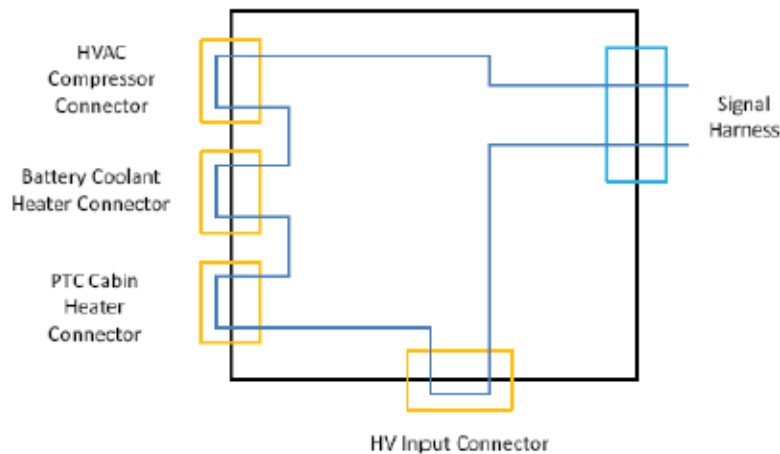

Figure 5
5. Listen to the alert tones and the sound of contactors opening to identify a loose connection during the previous step. Ideally, have a second person in the driver seat checking for alerts on the touchscreen. Figure 5 shows the DCDC HV connector circuit overview.